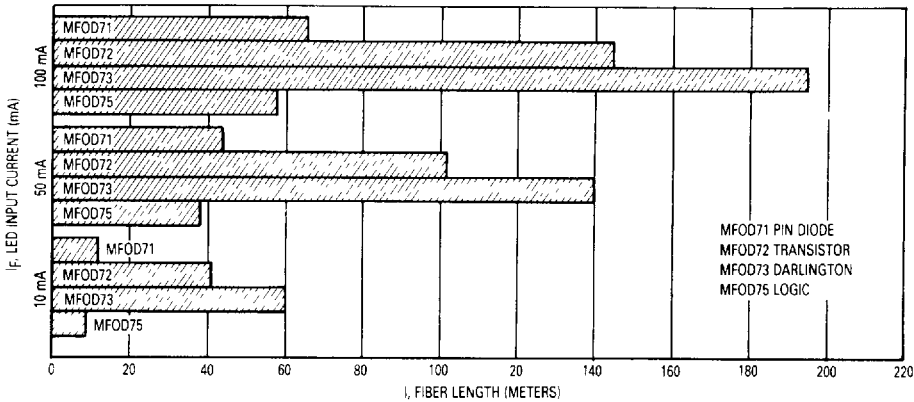

Figure 4. MFOE76 Working Distances
- Simple Fiber Termination and Connection (Figure 4)